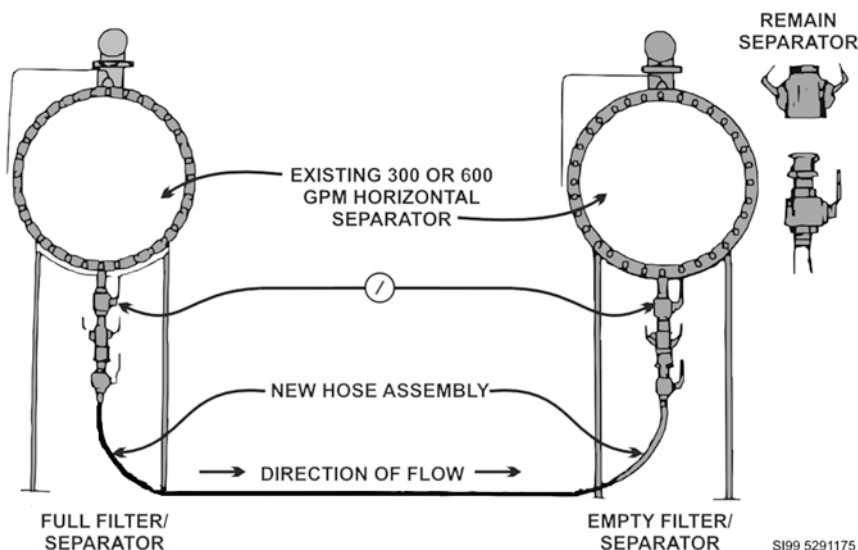

Figure 2-15. Initial filling of HFSs.
Modify the existing bottom drain underneath each installed HFS according to figure 2-15. All HFSs shall be equipped with  $\frac{3}{4}$ -inch ball valves (preferred) and quick-disconnect hose fittings. This will provide for initial gravity filling through the bottom connection and will allow the liquid levels in the two vessels to equalize.
If installation of 3/4-inch piping to the discharge side of a pump is required, use the valve and hose arrangement shown in figure 2-15. Before any modification can proceed, the BCE, in cooperation with the command civil engineer (CE) and the base fuels management office (FMO), will evaluate the requirement.